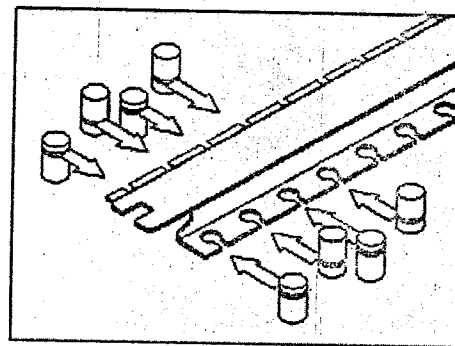

Figure 2.4-5: Inserting the rubber buffers
2. Insert the rubber buffers (provided) into the hold-down clamp. These buffers offer the plug-in cards two levels of protection against vibration. (See Figure 2.4-5)